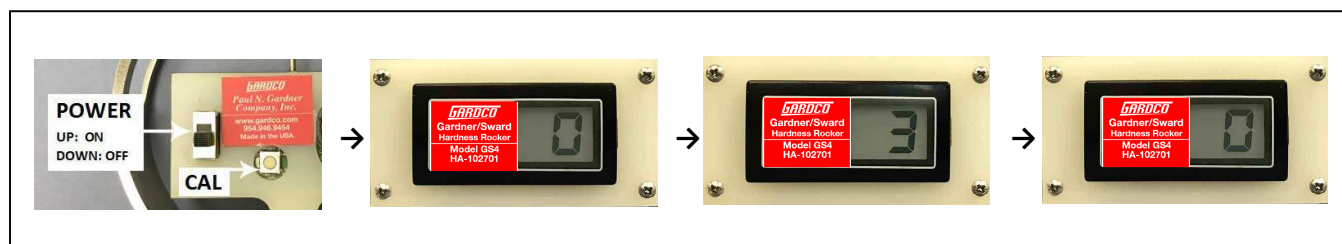

Figure 4 – Enabling the Calibration Mode
*Step-3 While monitoring the Rocker's display, slide the **POWER** switch to the ON position. Wait about 4 seconds or until the single digit on the Rocker's DISPLAY begins a count up from 0 to 3, before releasing the **CAL** pushbutton switch, as illustrated in **Figure 4**.*